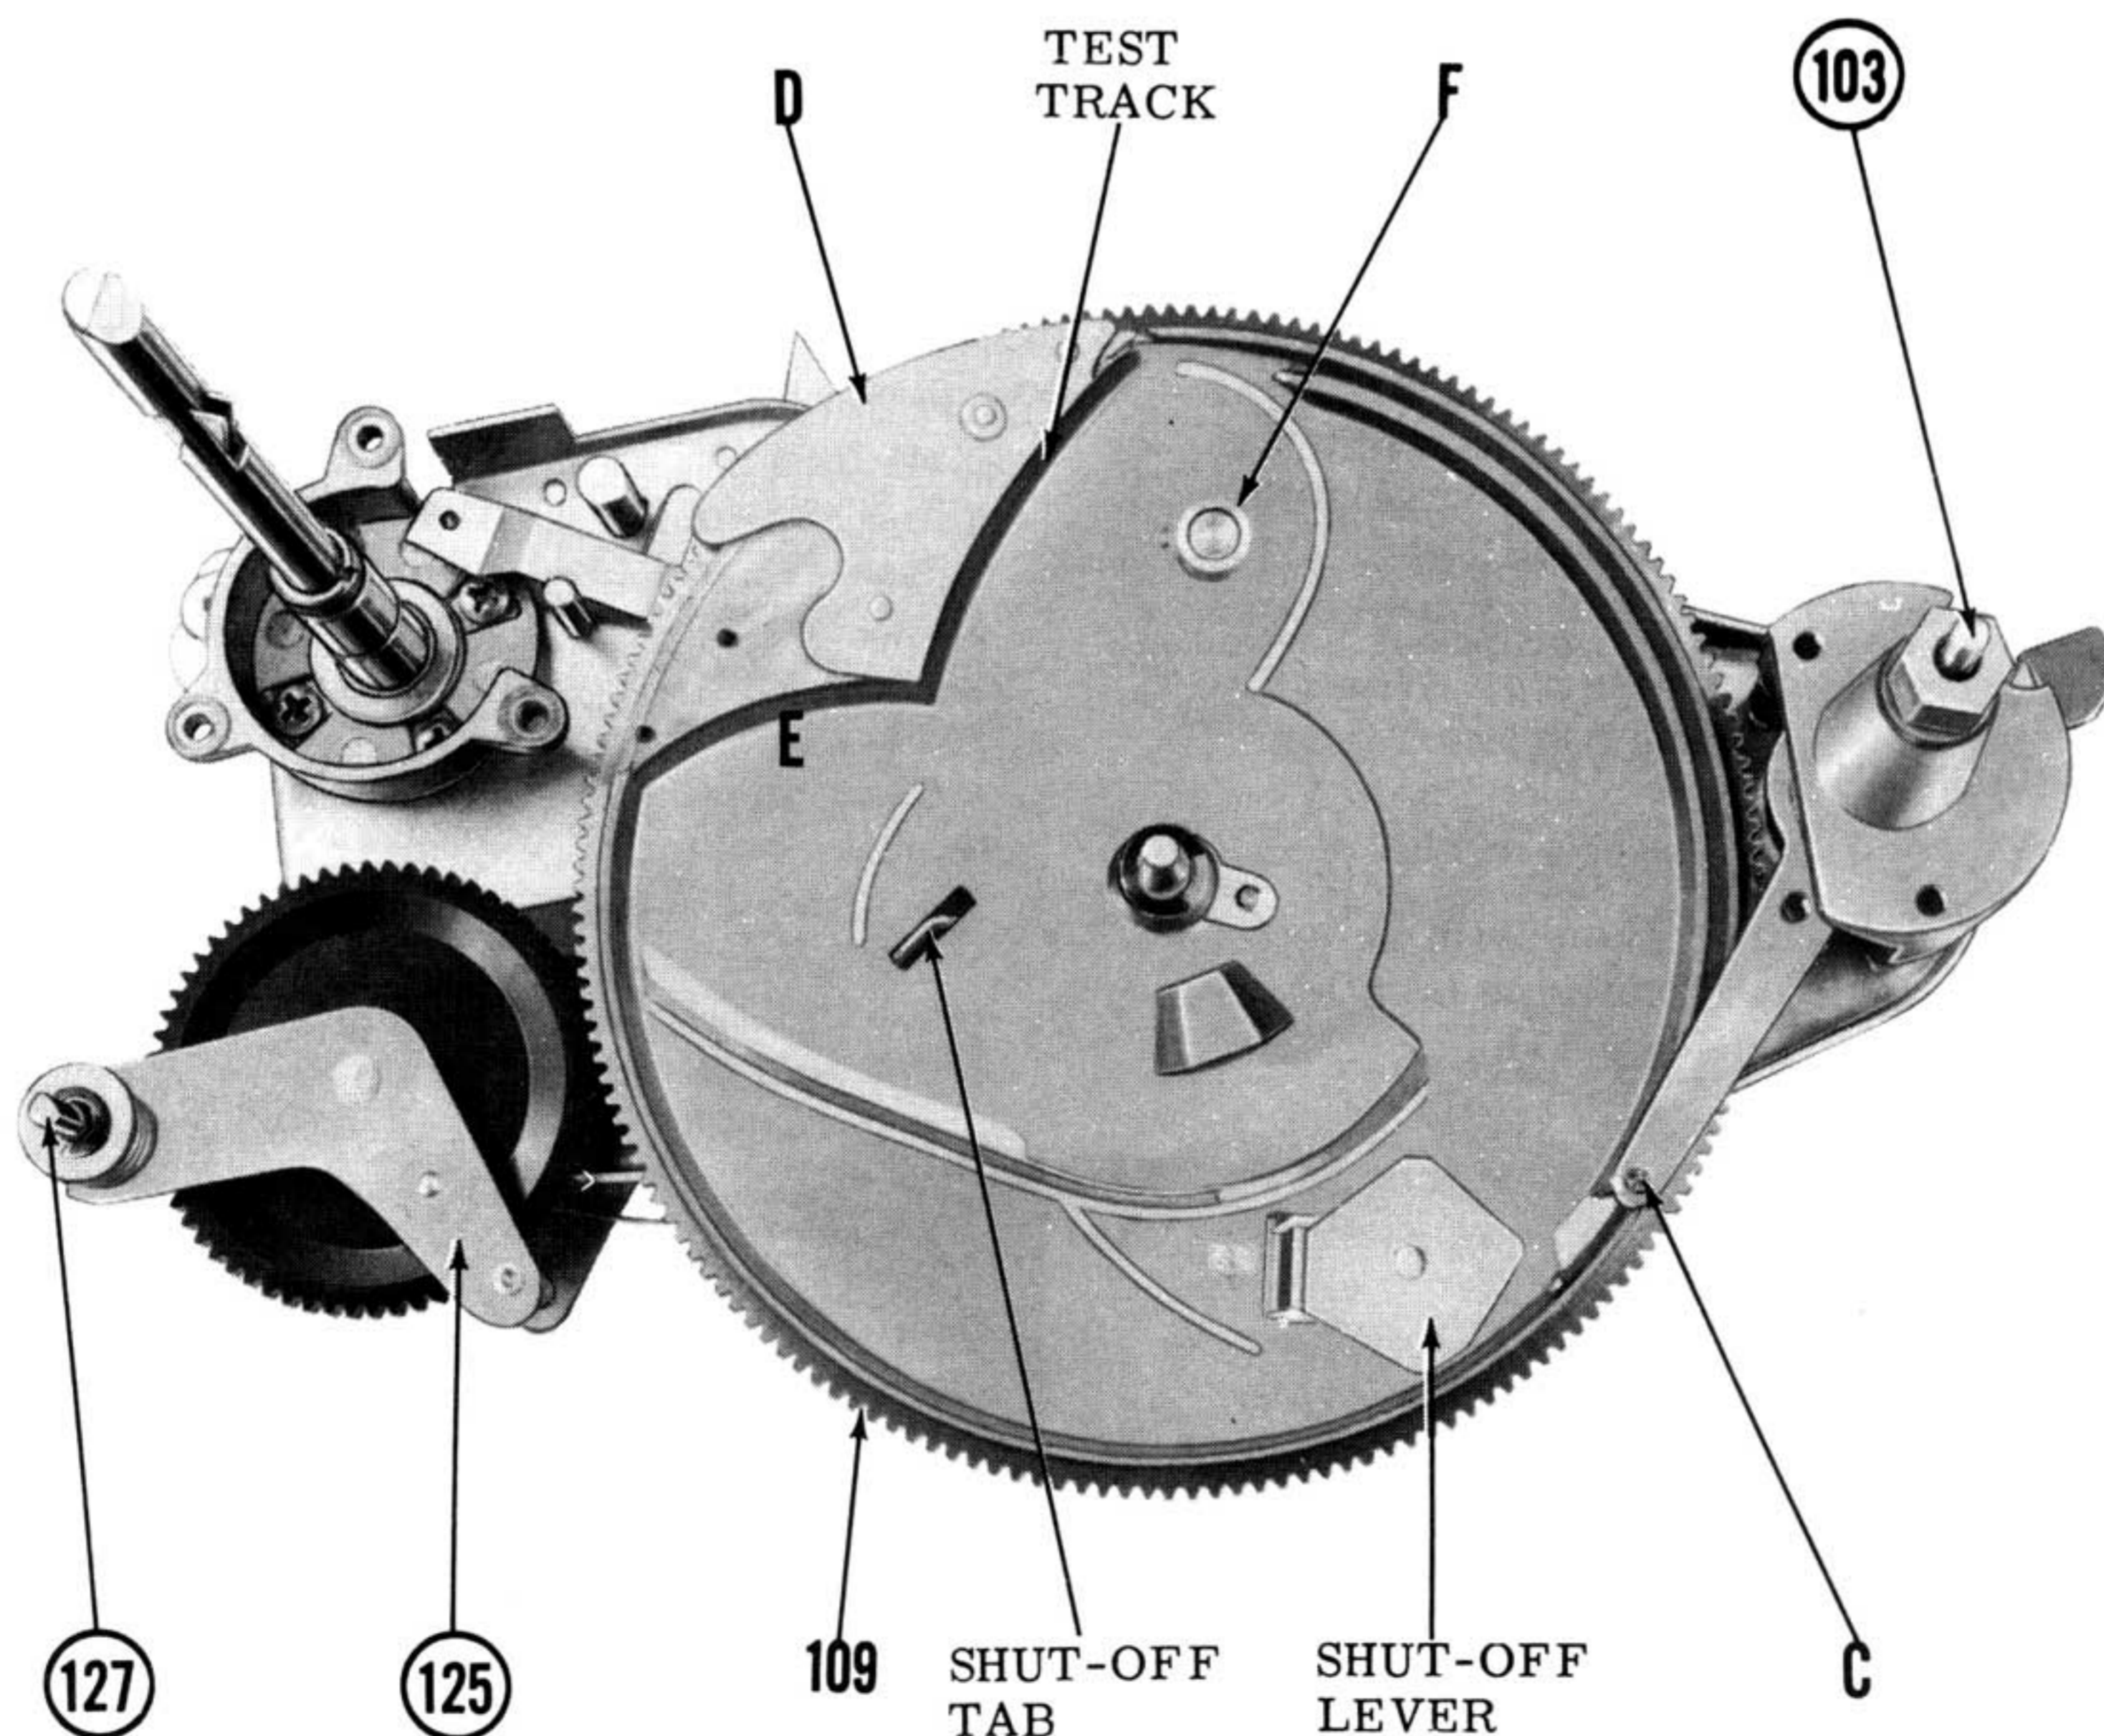
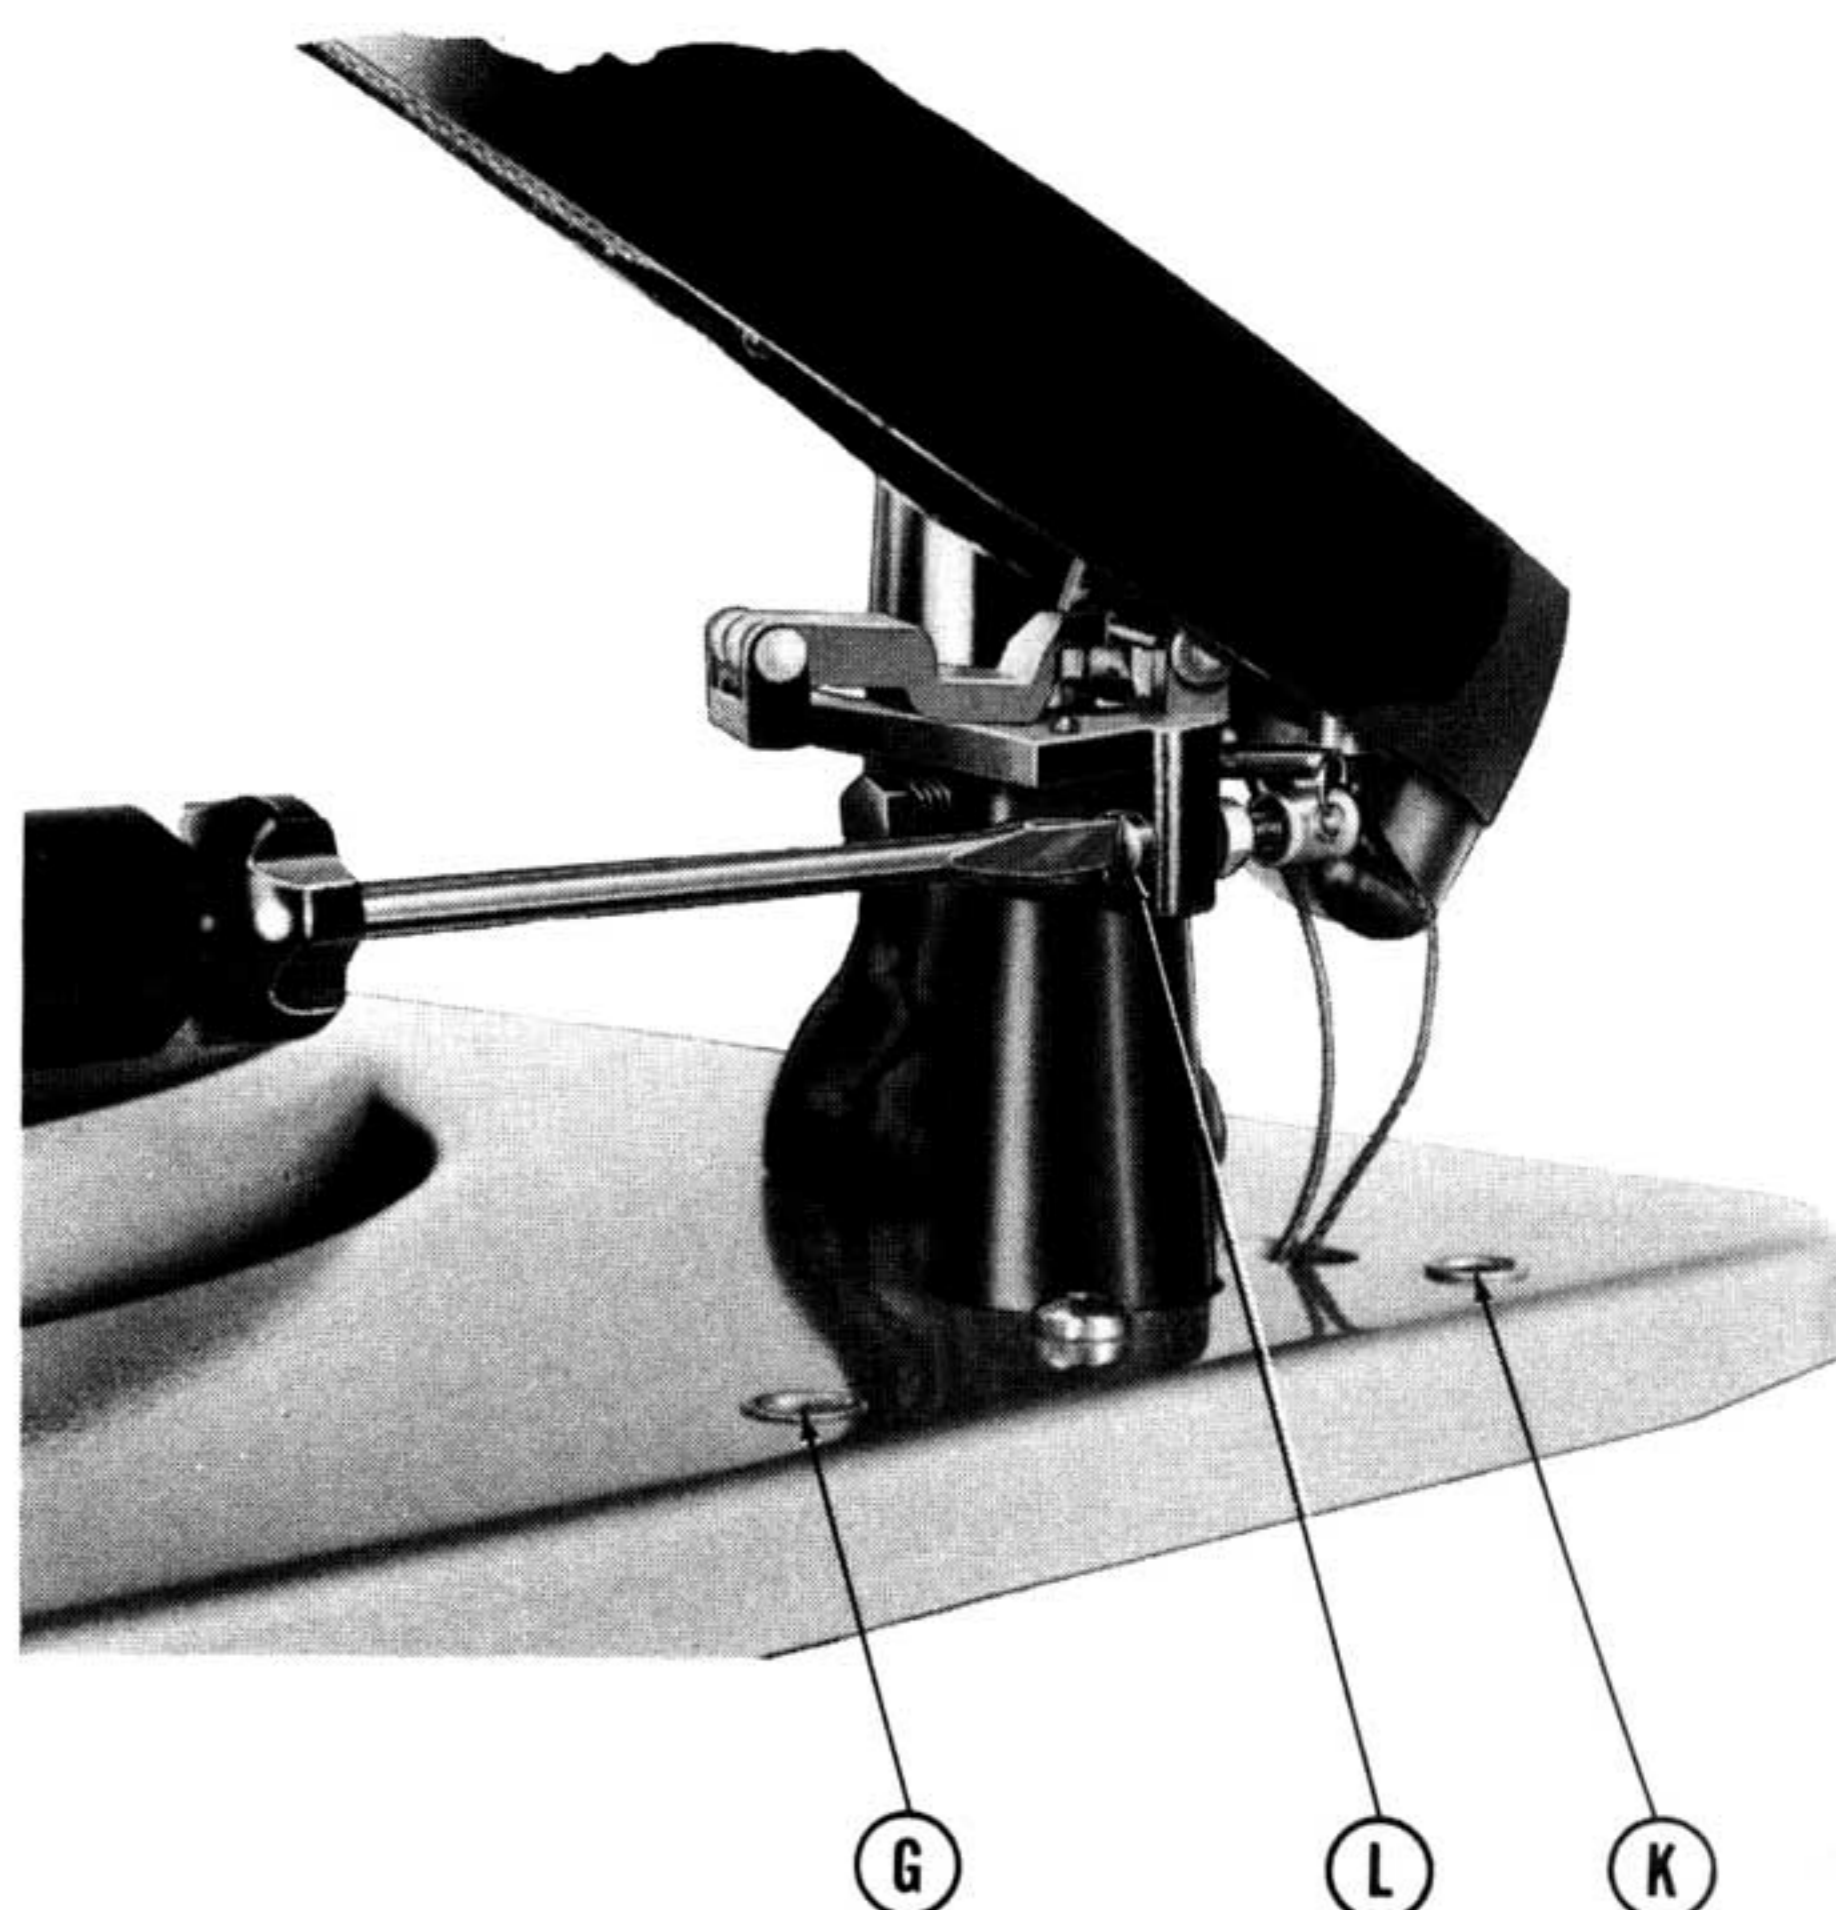

Figure 4--Top View of Sub-Plate Assembly
Figure 5
In addition, as the Main Cam Gear Assembly (109) starts to rotate, the Cam Following Pin "C" in Figure 4 is forced to the outside groove of the Cam. This action forces the Tone Arm out to the point of maximum lateral travel.
The Main Cam Gear (109) begins to rotate and the Following Pin "C" moves down the Test Track, carrying the tone arm in toward the center of the turntable. Since the arm does not contact a record, the Following Pin "C" will now leave the test track, move through the sloped groove to the outside groove in the Cam, thus swinging the tone arm out to its rest position. At a point during the rotation of the Main Cam Gear, the Following Pin will lock the Shut-Off Lever on the Cam so the Shut-Off Lever Tab will be in its outer position (see Figure 4).
This adjustment has been accurately set at the factory, however, should adjustment be required in the field, a screwdriver adjustment "G" (Figure 5) is provided in the base plate just forward of the tone arm pivot. This adjustment consists of an eccentric cam which contacts Lever "D" on the Main Cam Gear (See Figure 4).
Check to see if the Cam Following Pin "C" is rubbing bottom of cam groove when in the "playing recess". This pin is properly positioned when it touches halfway up ramp "E" (see Figure 4).
The Tone Arm Height Adjustment Screw "K" (Figure 5) is used to set the height to which the tone arm raises during the change cycle. During the change cycle the tone arm is lifted up and moved out over the rest post. During this time the clearance between the top of the tone arm and the underside of the next record on the shelf should be approximately 1/4". To obtain this setting, rotate screw "K" clockwise to lower the tone arm or counter-clockwise to raise it.
Use a suitable gram scale and following the manufacturers instructions check the stylus pressure. Stylus pressure is set by rotating screw "L" in Figure 5. Stylus pressure is to be set for 3 grams plus or minus 1/2 gram.
1. Unsolder pickup leads from Muting Switch (142) and remove turntable as outlined under "Turntable Removal".
2. Remove the Drive Wheel retaining screws (18) and lift off Drive Wheel (17).
4. Remove three self-tapping screws (92) around Turntable Spigot Housing and two from around the tone arm swivel base. As the last of these screws is removed, the entire sub-plate mechanism will fall free, therefore, a hand should be placed below to avoid damage when the sub-plate falls clear. The sub-plate now appears as shown in Figure 4.
5. Reverse the foregoing procedure to re-install Sub-Plate Assembly. It will be necessary to realign the Drive Wheel (17) so that it contacts the motor pulley exactly in the center of the 45 RPM step. NOTE: Be sure the motor is completely suspended during this adjustment.